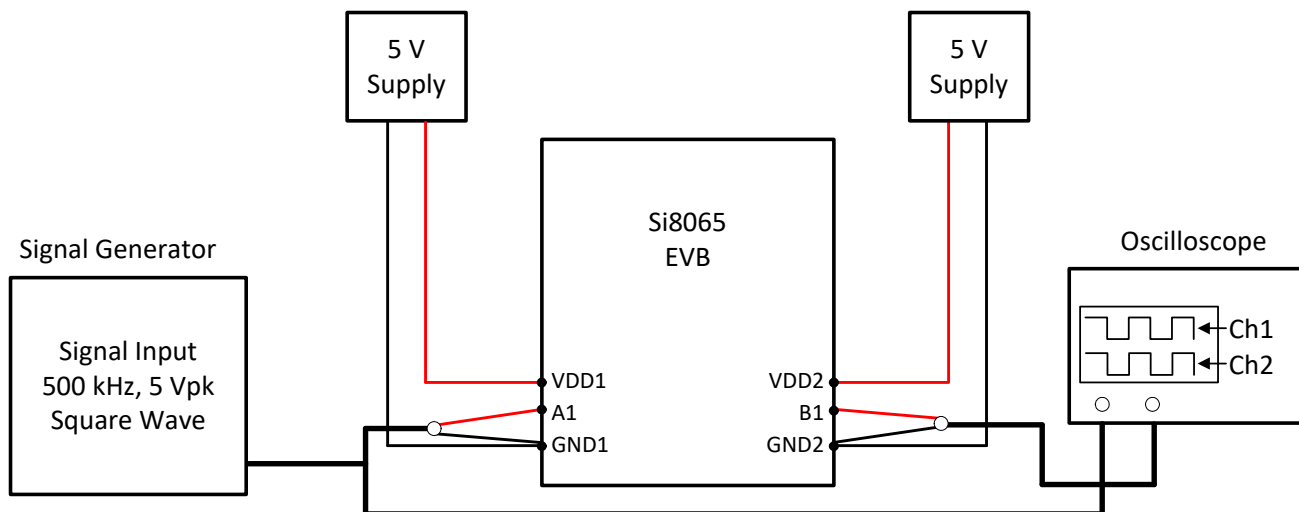
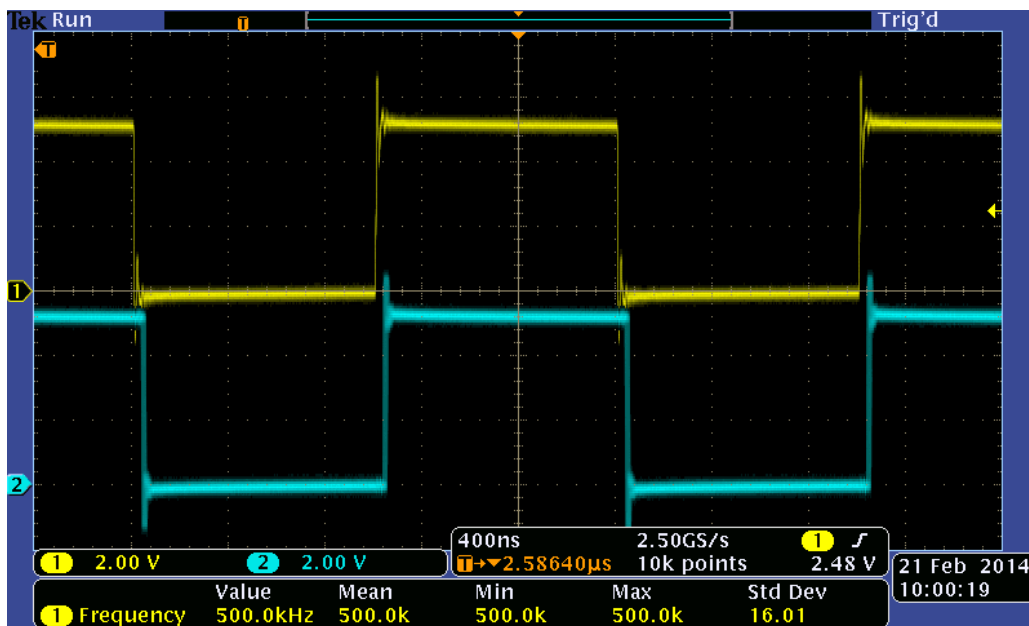

Figure 2. Summary Diagram and Demo Setup
Figure 3. Oscilloscope Display of Input and Output
Figure 2 illustrates the connection diagram used to demonstrate the Si80xx-EVB. This demo transmits a 500 kHz (5 V peak, 50 percent duty cycle) square wave through the isolator to its output. In this example, VDD1 and VDD2 are powered by 5 V supplies. Figure 3 shows a scope shot of CH1 (input) and CH2 (output). Note that if a user wants to evaluate a digital isolator other than the ones pre-populated, this can be accomplished by removing the installed device and replacing it with the desired footprint-compatible isolator device.
To run the demo, follow the instructions below. Review Figure 2 and Figure 5 if necessary.
5. Adjust the level indicator for all channels to properly view each channel as shown in Figure 3.
A 500 kHz square wave should display on Channel 1 of the scope for the input and a 5 V delayed version of this square wave should display the output on Channel 2, as shown in Figure 3. This concludes the basic demo.